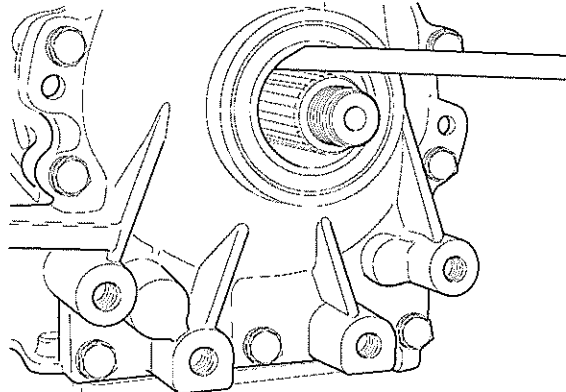

Fig 16 Rear rotary shaft seal ring
- 23.5 Remove rotary shaft seal with screwdriver (see Fig 16).